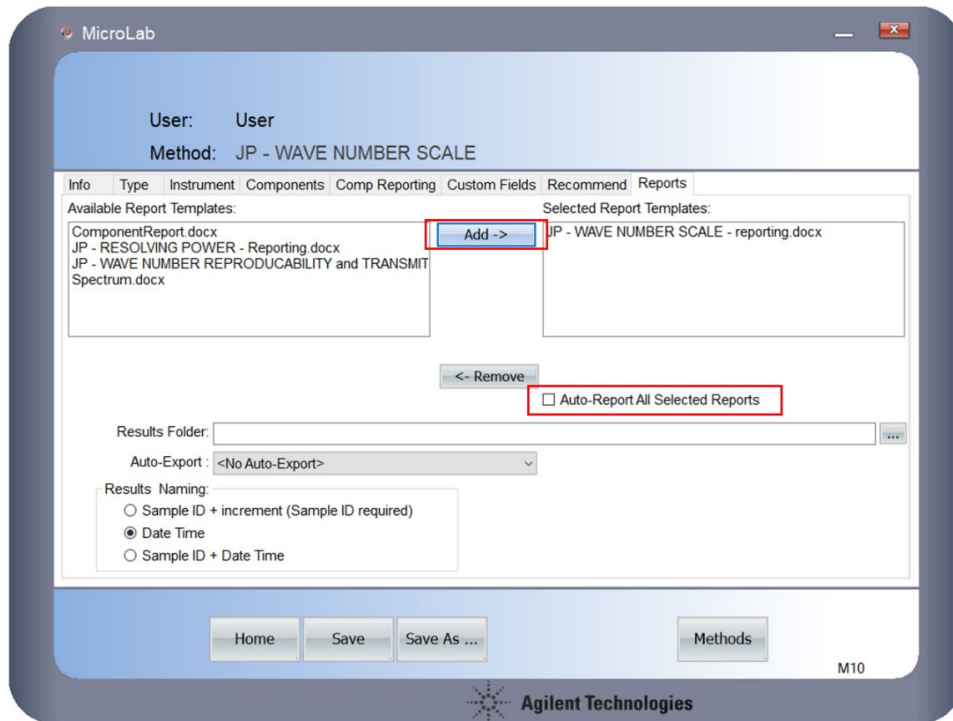

Figure 20. Reports tab
- 4 From the list of **Available Report Templates**, select the respective one to associate with the method. The naming convention that was suggested in Table 9 (see page 28) is shown in Figure 20.